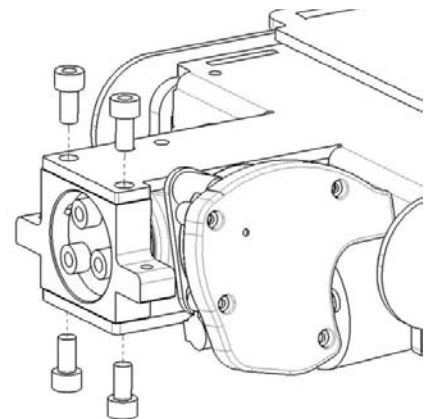

Fig. 28. Mount the four screws holding the rear edge of the actuator.
16. Mount the four screws holding the rear edge of the actuator. See fig. 28.